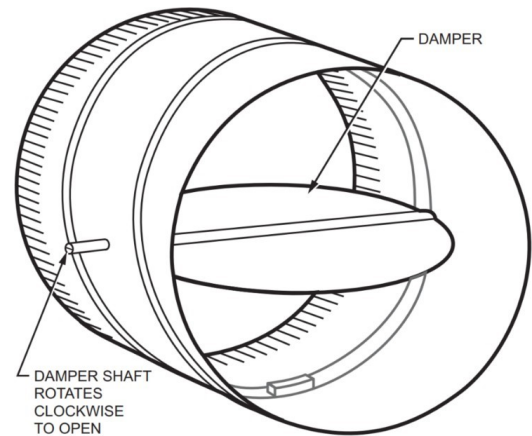

Figure 3. Damper with 90 degree CW rotation to open
2. Determine the damper 'full opening angle' (45, 60, or 90 degrees). In Figure 3 above, the damper is open to its fully open position of 90 degrees.